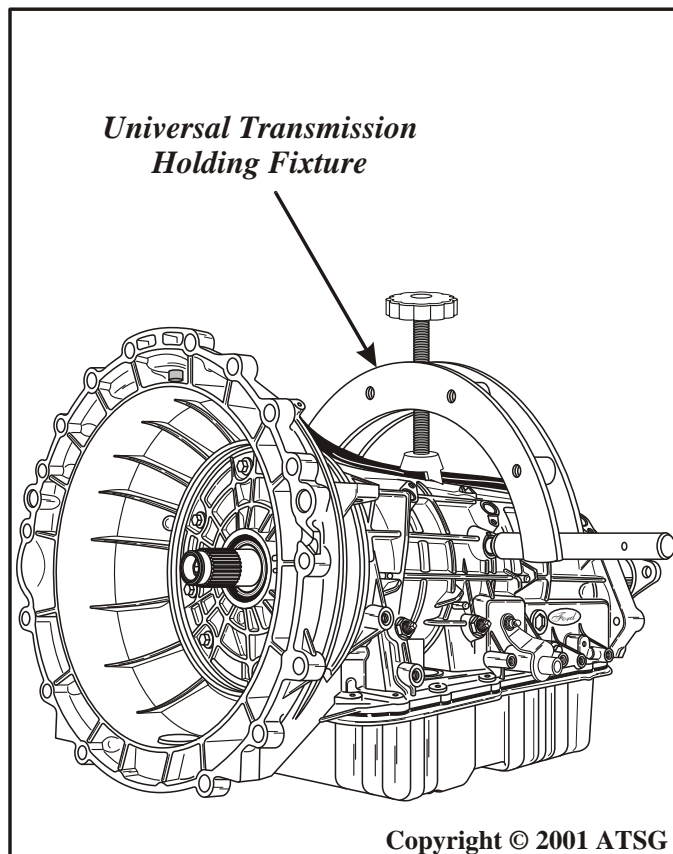

Figure 183
88. Rotate transmission so that pan is facing down as shown in Figure 183, and remove complete assembly from the bench fixture.